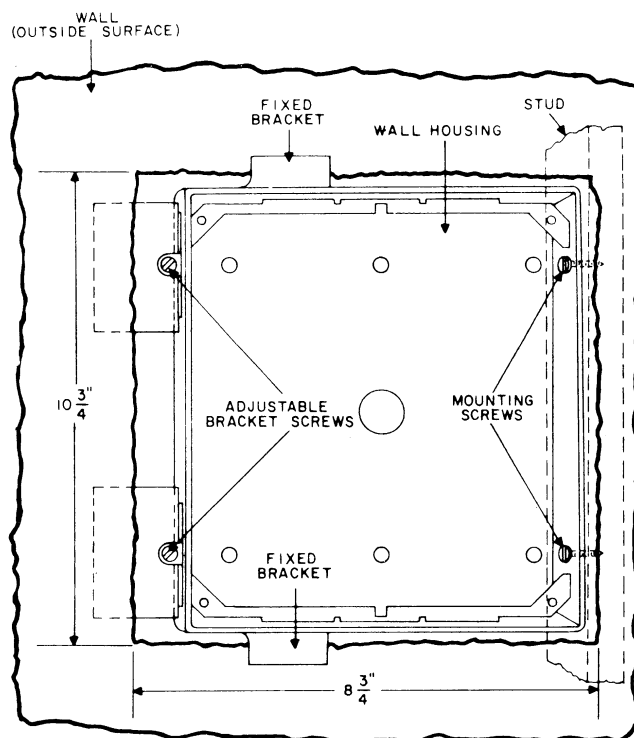

Figure 15. Wall Housing Mounted With 550729 Bracket Set.
3.03 For installation of the wall housing in existing walls, a 550729 set of two mounting brackets may be used to clamp the housing in place by gripping the inner and outer surfaces of the surrounding plaster or wallboard. The application is illustrated in Figure 15.